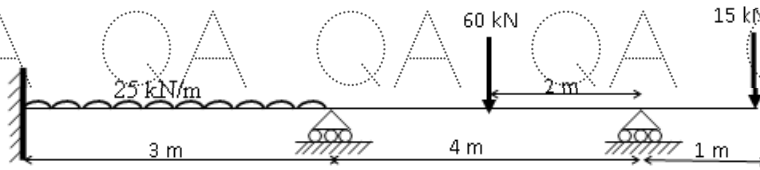

Figure.3
4. Using Kani's method, analyse the beam shown in Figure.3. Draw BMD. [10]